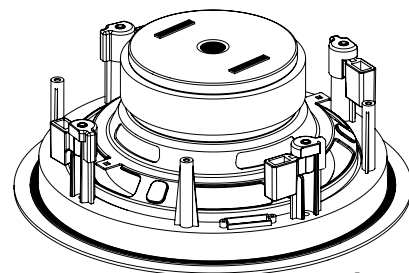

Fig. 4
3. Place a strip of thin adhesive-backed foam around the backside of the mounting flange of the subwoofer along with two short strips on the back of the magnet assembly as shown in Fig. 4.
For subwoofer applications, it is suggested that you place a strip of thin adhesive-backed foam around the backside of the mounting flange along with two short strips on the back of the magnet assembly as shown in Fig. 4.